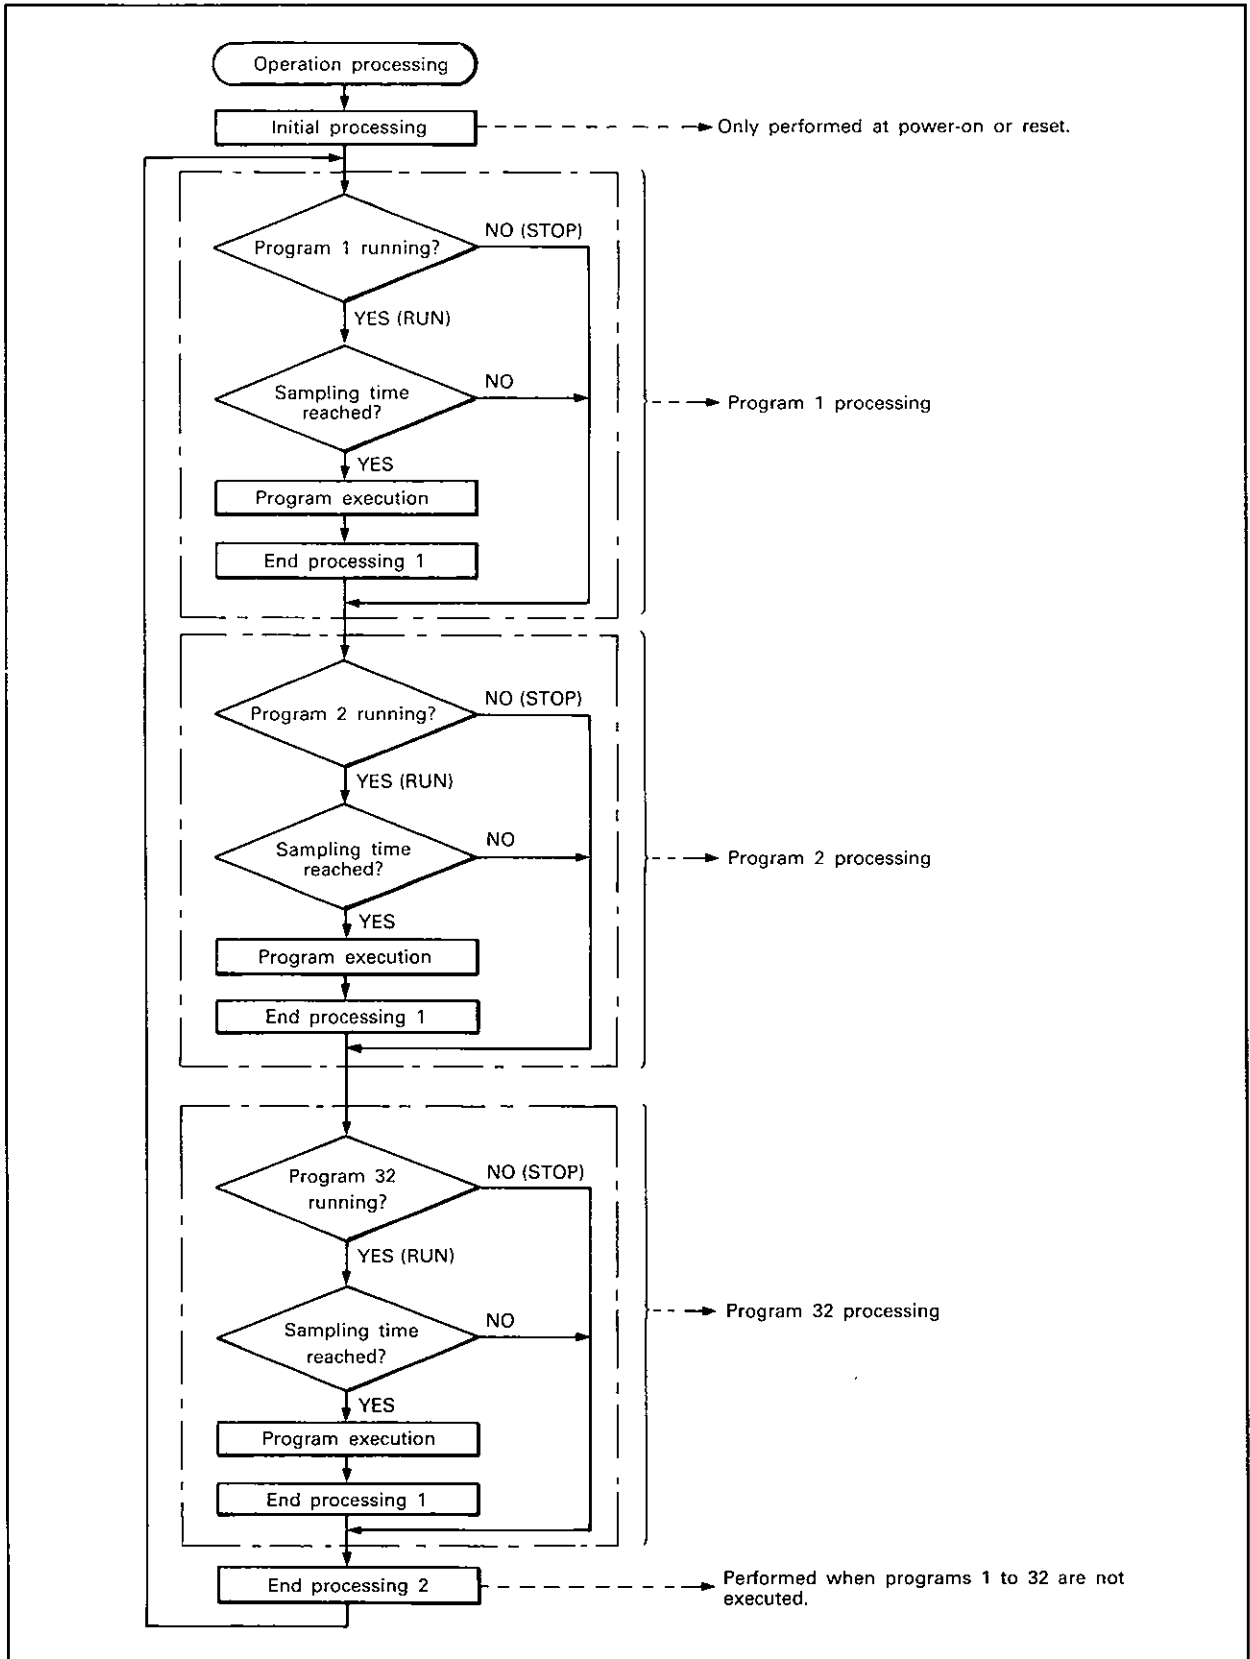

Fig. 2.1 Operation Processings
The A81CPU processings are shown in Fig. 2.1.
The A81CPU repeats the processings of programs 1 to 32 as shown in Fig. 2.1.
(1) There are the following types of end processings. (See Fig. 2.1)